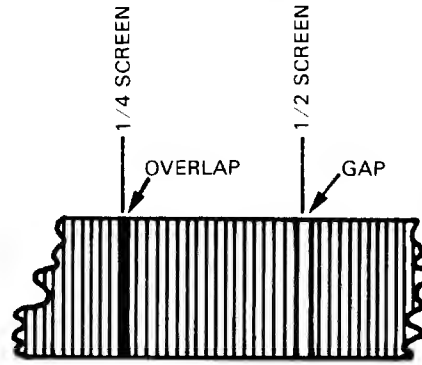
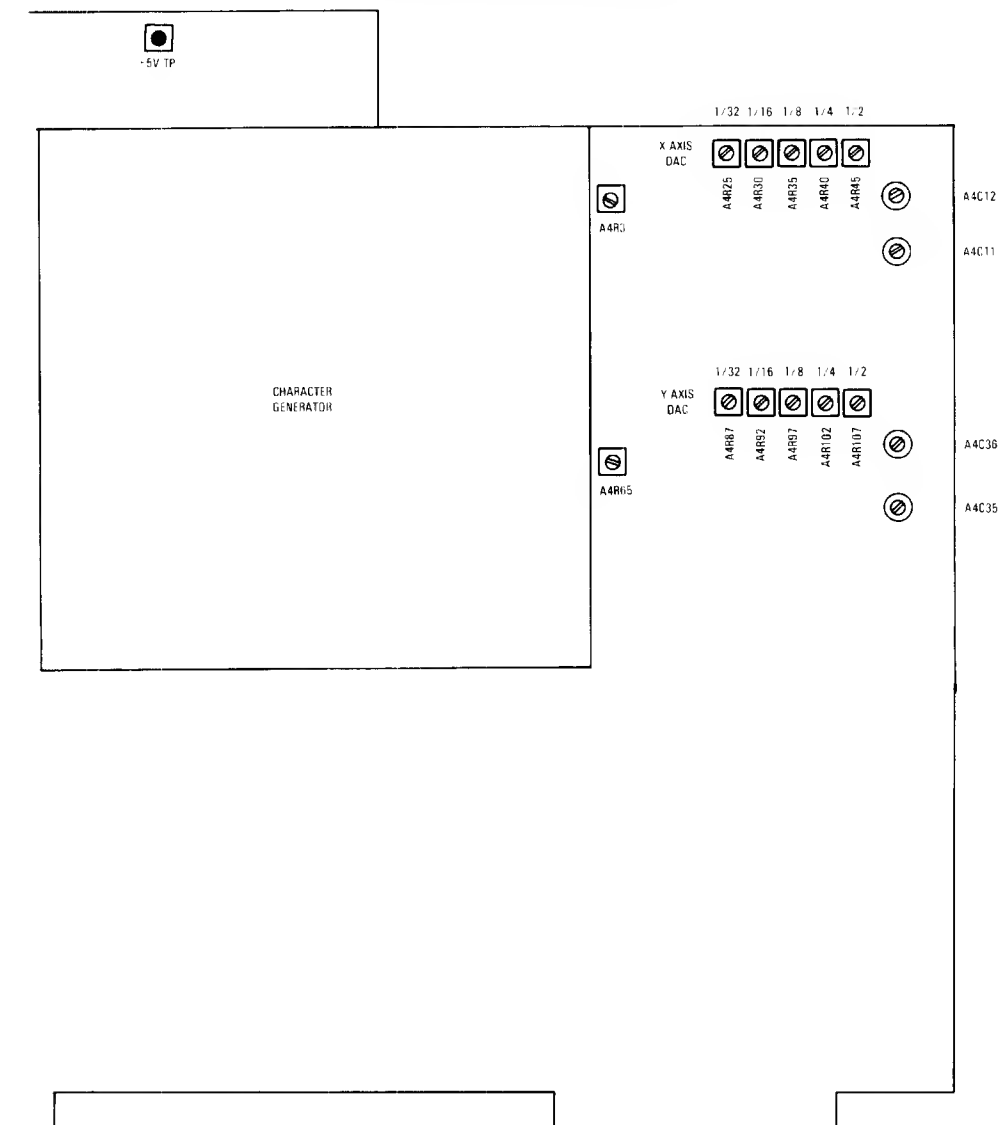
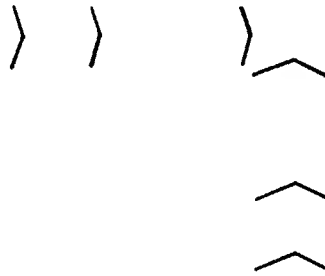
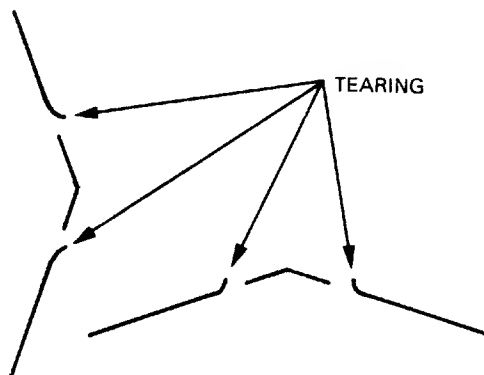

Figure 5-6. DAC Adjustment Indication on CRT
Figure 5-7. DAC Adjustment Locations on Display Board
Figure 5-8. DAC Timing Adjustment CRT display
Figure 5-9. Undesired vector shape for DAC timing
- d. Adjust X-axis digital-to-analog converter (DAC) to minimize gaps or overlapping for each adjustment (figure 5-6). The adjustments (figure 5-7) interact and should be done in the following sequence.
- d. Adjust Y-axis digital-to-analog converter (DAC) to minimize gaps or overlapping for each adjustment (figure 5-6). The adjustments (figure 5-7) interact and should be done in the following sequence.
- c. The CRT will display six pointed vectors as shown in figure 5-8.
- d. Adjust the vectors for minimum distortion as shown in figure 5-8. Figure 5-9 shows undesired vector shapes. The adjustments (figure 5-7) interact and should be done in the following sequence.